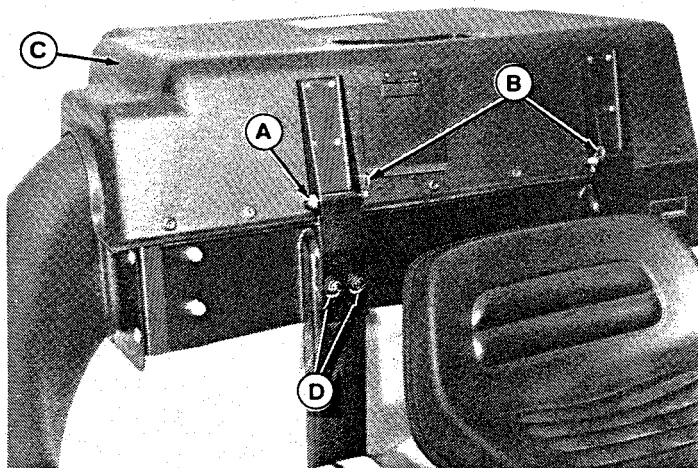

Figure 34.
- Place cover (C, figure 34) onto frame and align the hinges. Insert pins and install clips (B).